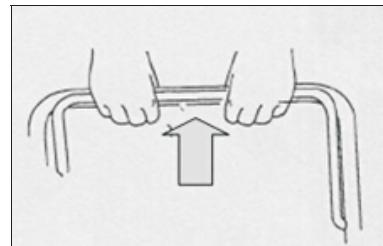

Fig. 2A
a) Standing behind the unit, grasp the brake control handle and hold it against the upper handle.(Fig 2A )